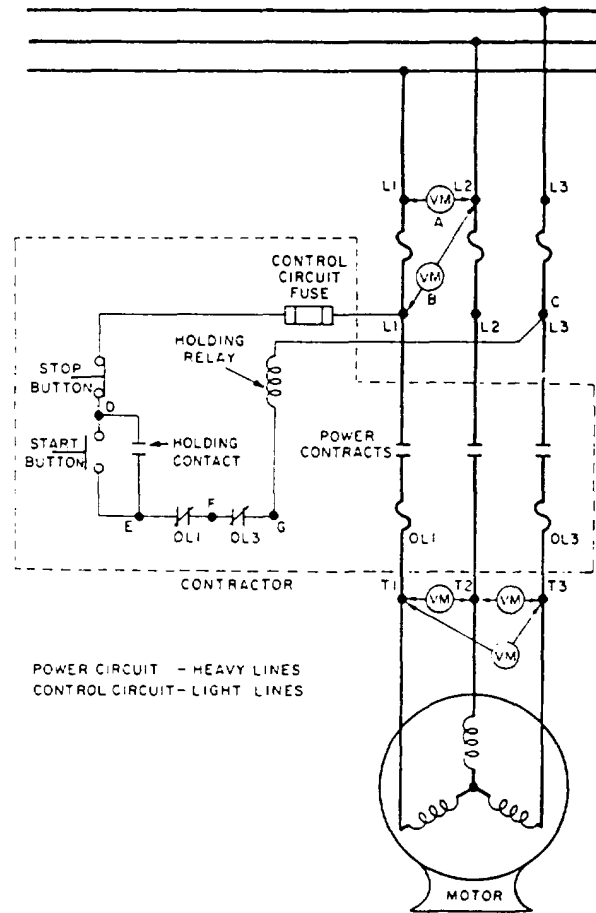

Figure 1-24-Troubleshooting a 3-phase magnetic time starter.
When a motor-controller system has failed and pressing the start button will not start the system, press the overload relay reset push button. Then, attempt to start the motor. If the motor operation is restored, no further checks are required. However, if you hear the controller contacts close but the motor fails to start, then check the motor circuit continuity. If the main contacts do not close, then check the control circuit for continuity. An example of troubleshooting a motor-controller electrical system is given in a sequence of steps that may be used in locating a fault (fig. 1-24). We will start by analyzing the power circuit.
2. Place the voltmeter probes at points C and D (fig. 1-24). You should have a voltage reading when the stop switch is closed and a no-voltage reading when the stop switch is open. The conditions would indicate a good stop switch.